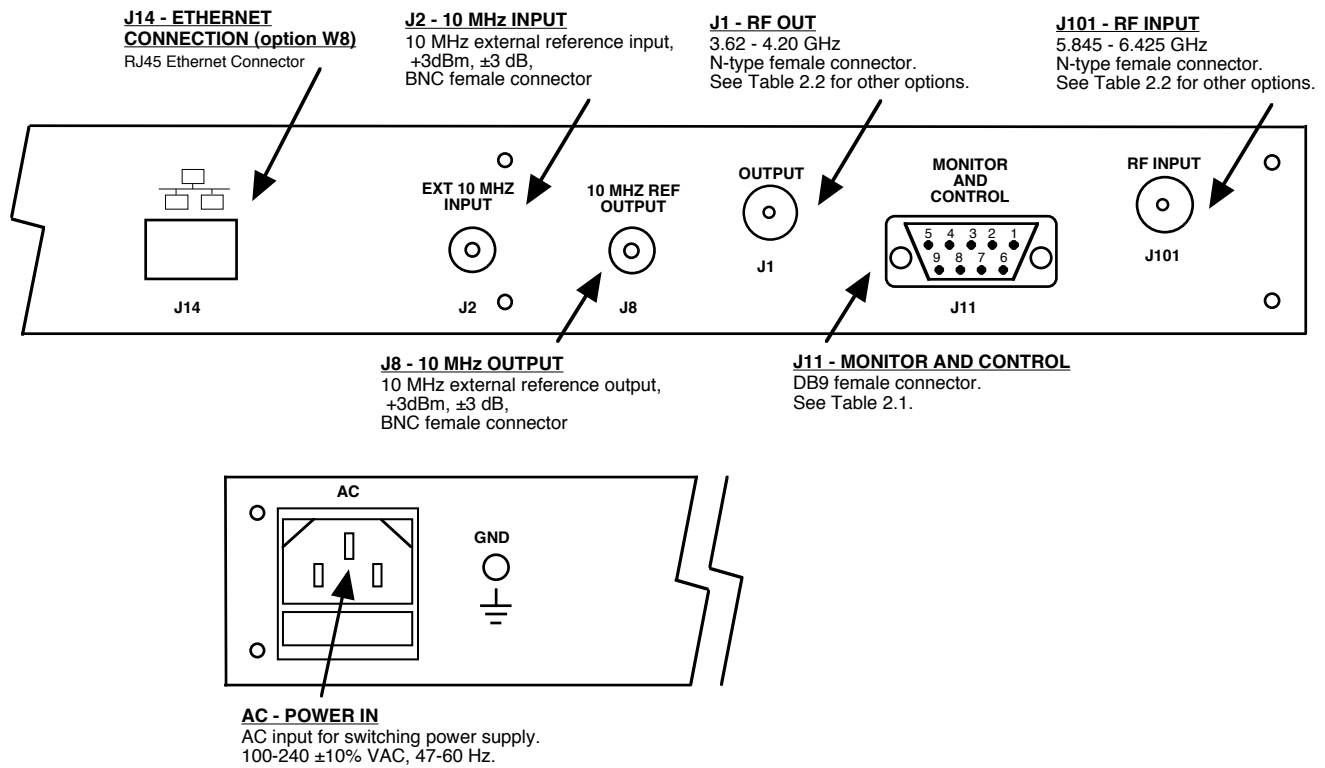

FIGURE 2.2 3116-64T42 Rear Panel Inputs and Outputs
2.2 Rear Panel Input / Output Signals - Figure 2.2 shows the input and output connectors on the rear panel.
1. Connect a -30 dBm to -10 dBm signal to RF-BAND INPUT (J2) Figure 2.2.